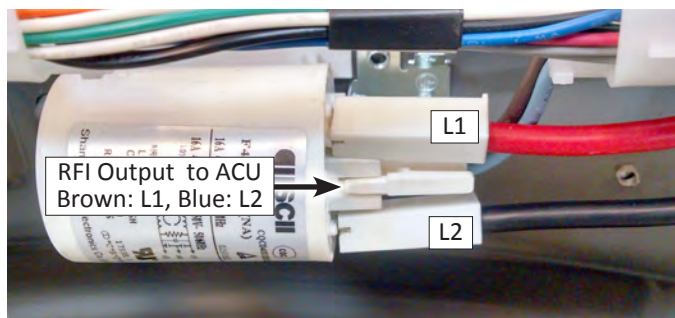

Figure 4
9. Disconnect the RFI's Filter's L1 and L2 terminals, and output connector to ACU (see Figure 4).